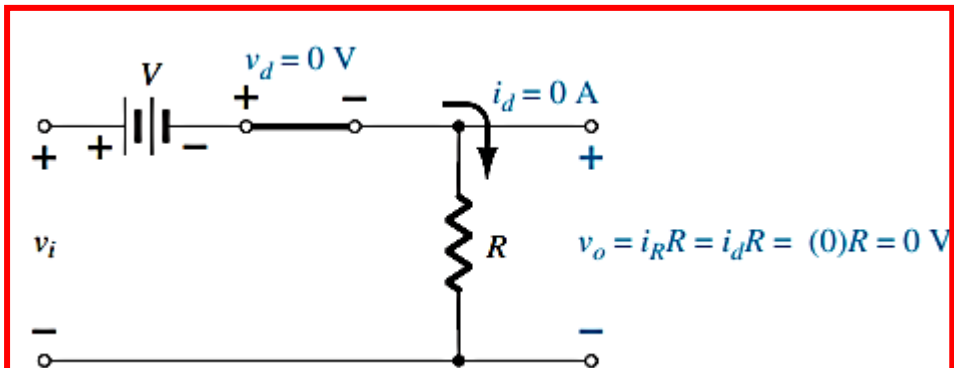

Fig. 3: Determining applied voltage for the circuit
- Note the substitution of the short-circuit equivalent for the ideal diode in Fig 3, and the fact that the voltage across the resistor is 0 V because the diode current is 0 mA. The result is $v_i - V = 0$ or $v_i = V$ is the applied (transition) voltage.